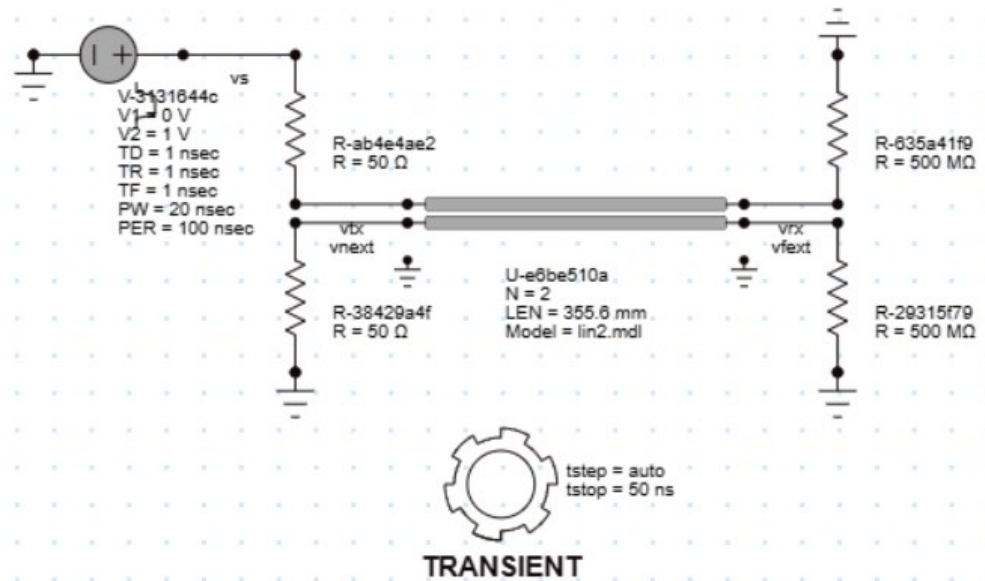

Figure 2. Schematic for couple-line simulation.
In this homework, we will verify the coupled-line response using LIM, a transient circuit simulator. Create a schematic as shown in Figure 2. The lossless coupled-line is a U-element in LIM. It can be found in the “**Transmission lines**” component group.
1. In Figure 2, the far ends of the lines are terminated with  $500\text{M}\Omega$  resistors. This is practically leaving the lines open. Simulate the circuit. Include a plot of the near-end cross-talk (NEXT) and the far-end crosstalk (FEXT) in your submission. They should match the result you get from your program in Homework 4.